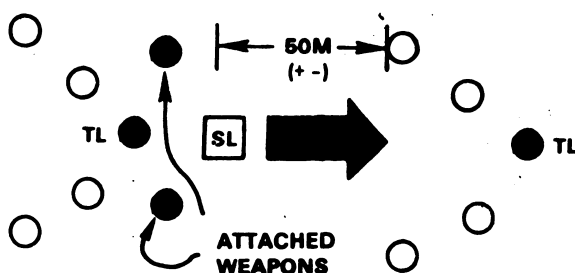

Figure 2. Traveling overwatch technique.
b. Use the TRAVELING OVERWATCH technique when chance of enemy contact is possible, but not expected. Caution is justified but speed is desirable. The trailing team drops behind the lead team about 50 meters and is prepared to support the lead fire team. If the lead fire team receives fire, the trailing team is far enough to the rear so it will probably not be suppressed by the same enemy fire, yet close enough to fire and/or maneuver in support of the lead team (fig. 2).